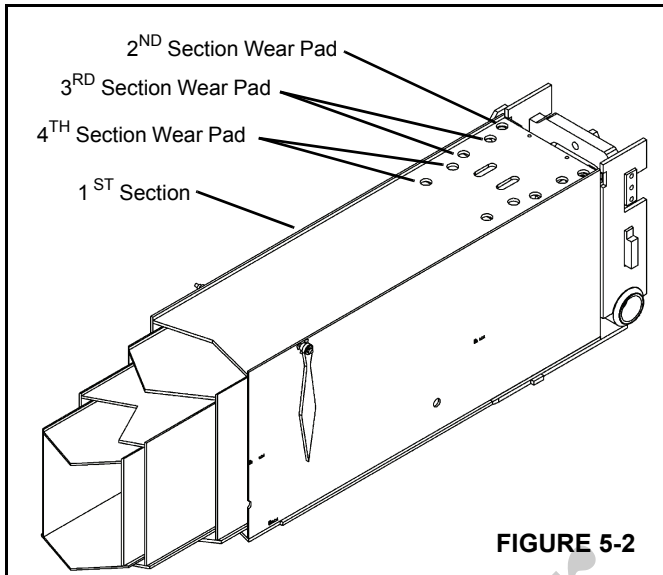

FIGURE 5-2
2. With the boom fully retracted, remove the access plate (6) located on the top rear of the 1ST section (Figure 5-2).
3. Apply grease to the wear pads on the top of the 2ND section through the access holes (4) in the 1ST section with a grease gun (Figure 5-2).
4. Extend the boom to line up the access holes on the 2ND section (3) with the wear pads on the 3RD section. Apply grease to the 3RD section wear pads with a grease gun.
5. Extend the boom to line up the access holes (2) on the 3RD section with the wear pads on the 4TH section. Apply grease to the 4TH section wear pads with a grease gun.